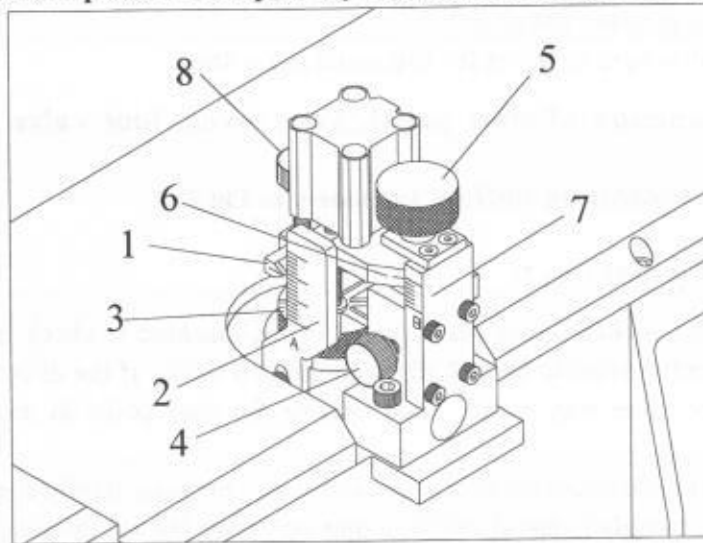

Fig.4
3.6.1 Basic gathering rate setting (Fig.4)
3.6.2 First increase gathering rate setting (Fig.4)
3.6.3 Correction gathering rate setting (Fig.4)